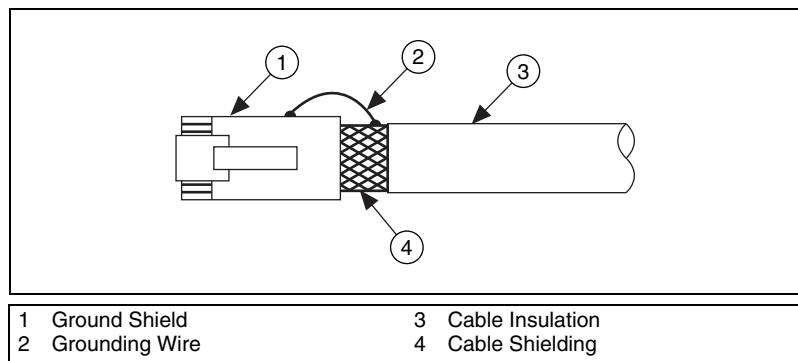

Figure 10. Connect the Shielding to the RJ-50 (10p10c) Modular Plug
- Connect the cable shielding to the metal grounding portion of the RJ-50 (10p10c) modular plug with a grounding wire as shown in Figure 10.